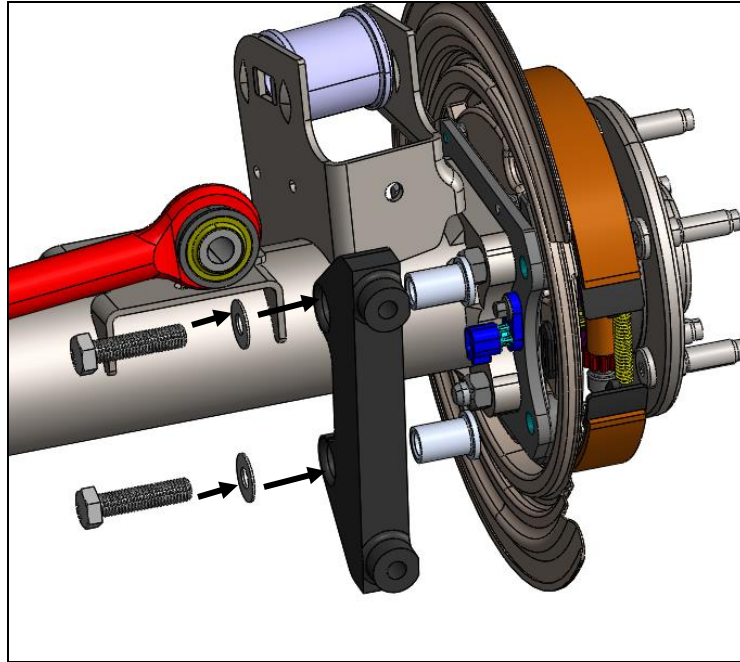
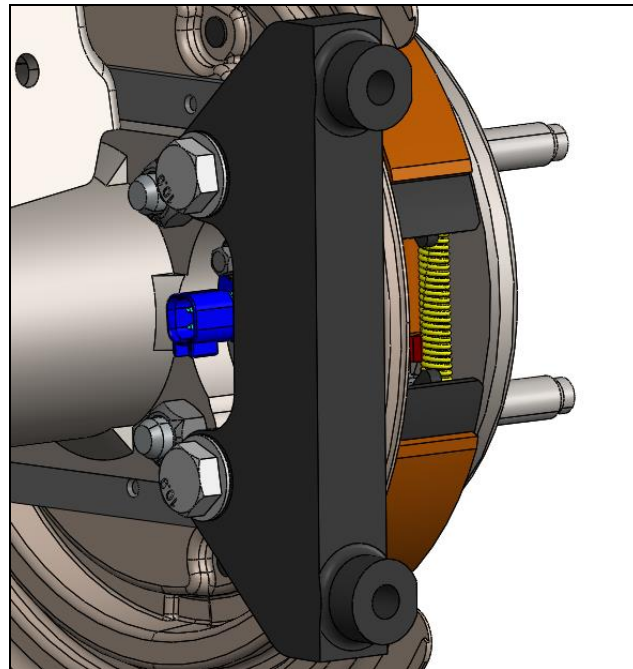
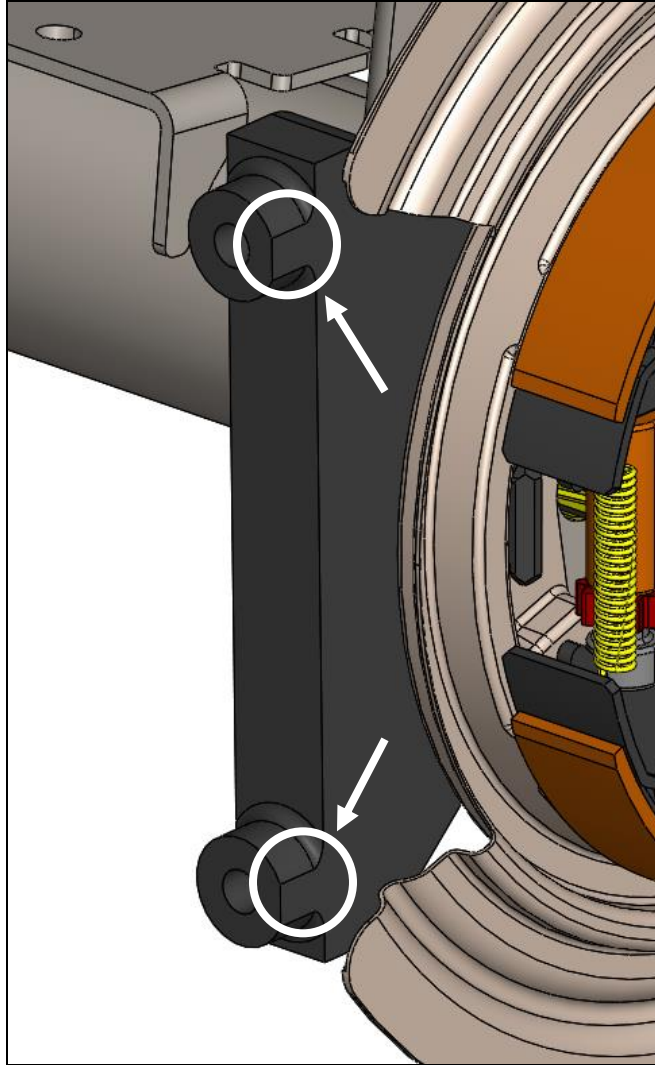

Figure 2: Base Bracket Installation-Exploded View
Figure 3: Base Bracket Installation-Assembled on Flange
Figure 4: Base Bracket Installed-Notches Facing Outboard
5. Install the new base bracket to the ***inboard*** side of the axle housing flange. The side of the bracket with the notches on the caliper mounts, shall face outboard. Secure the bracket using the supplied M12-1.50x50mm hex bolts and 7/16" washers. Hand tighten the bracket for now as shimming will need to be performed in a later step. See Figure 2, Figure 3, and Figure 4 for reference.